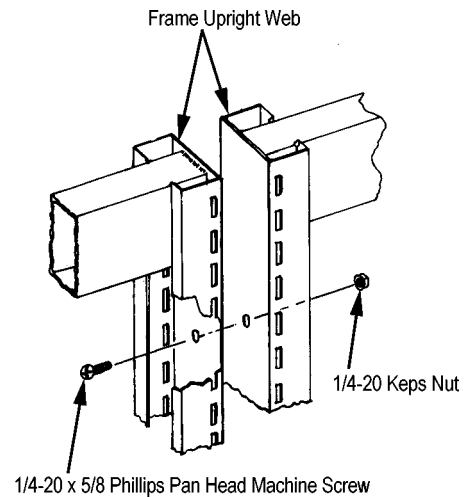

FIGURE 5
**Do not bolt through base brackets at this time.** See Figure 5.